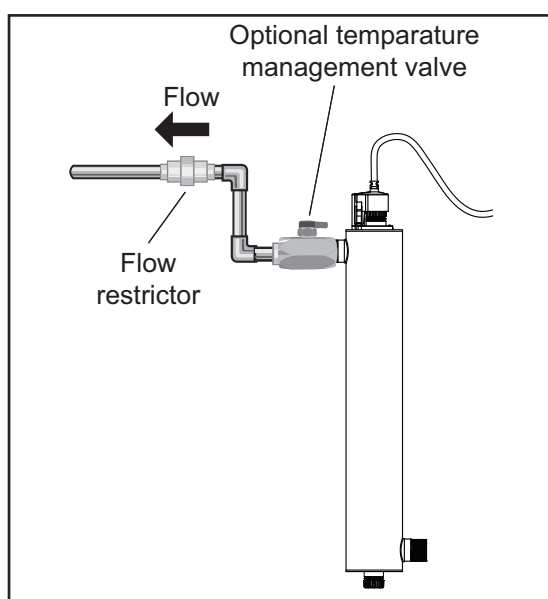

Figure 4 Flow Restrictor
3. Mount the system to the wall using the supplied clamps. Various connection methods can be used to connect the water source to the system, however union type connectors are recommended. The use of a flow restrictor device will help to maintain the manufacturers rated flow. The flow restrictor should be installed on the outlet port and is designed to be installed in one direction only. Ensure that the flow of the water matches the flow direction as indicated on the flow restrictor. Refer to Figure 4.